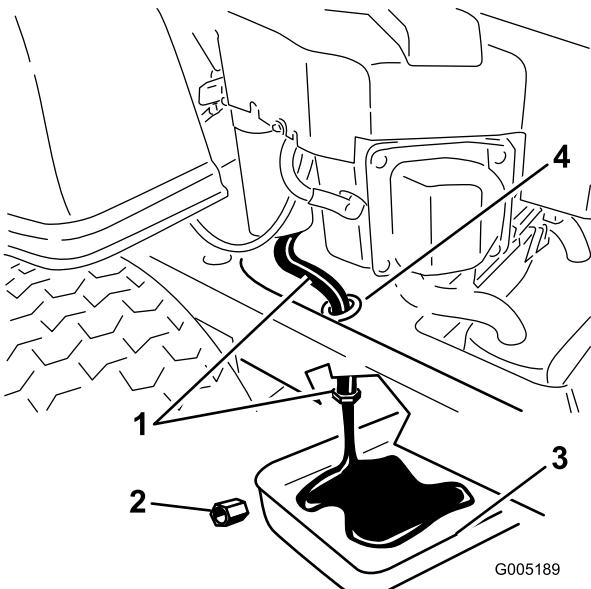

Figure 27
5. Locate the oil drain hose on the left side of the engine. The drain plug is attached to a drain hose routed through a drain hole in the machine frame (Figure 27). Clean the area around the oil drain plug cap and the oil drain hose.
6. Place a pan underneath machine directly below the oil drain hose as shown in Figure 27.
7. Using two wrenches (one to hold the oil drain hose and one to loosen the plug), remove the oil drain plug (Figure 27).
13. When oil has drained completely, install the oil drain plug. Tighten the plug to 14 N·m (125 in-lb) torque. Wipe up any excess oil (Figure 27).